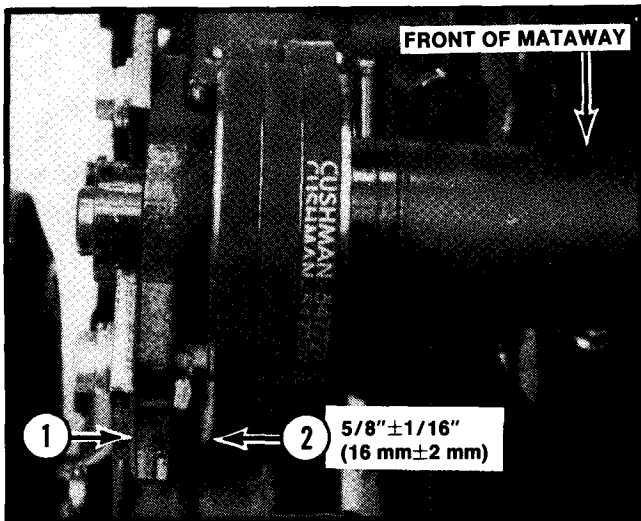

Figure 16. Reel Belt Pulley Alignment
14. Check the reel belt pulley alignment (See Figure 16). If adjustment is required, loosen the set screw in the pulley and move the pulley in or out on the shaft.